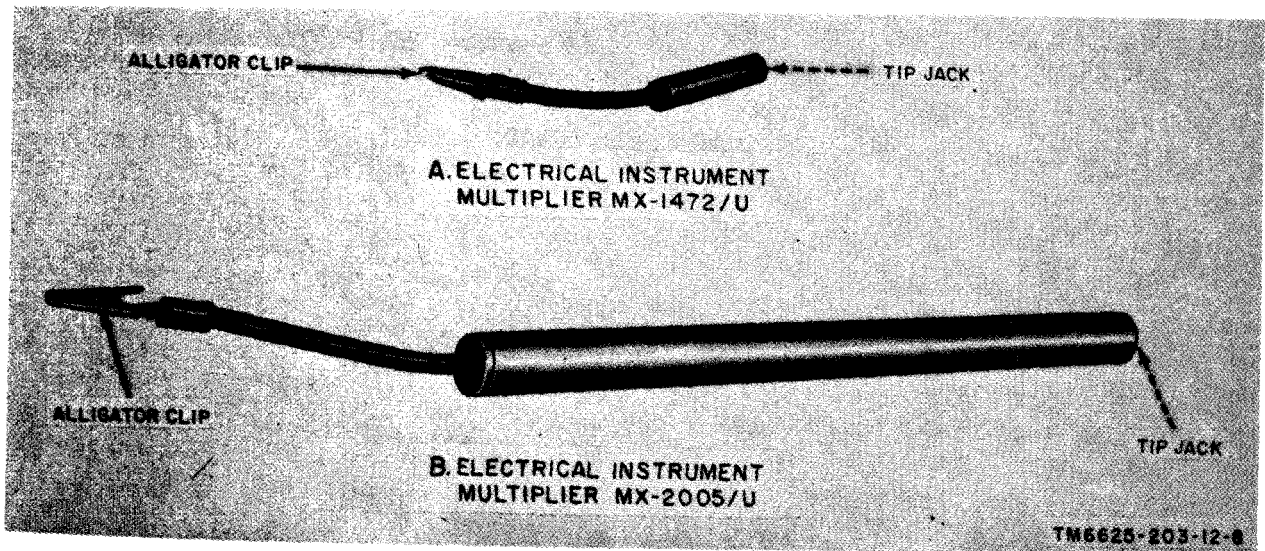

Figure 8. Electrical Instrument Multiplier MX-1472/U and Electrical Instrument Multiplier MX-2005/U.
- (7) 0 to 100 amperes.
b. Electrical Instrument Multiplier MX-1472/U (fig. 8). Electrical Instrument Multiplier MX-1472/U contains a precision resistor assembly terminated at one end with an alligator clip and at the other end with a tip jack. The MX-1472/U enables the multimeter to be used for dc voltage measurements up to 10,000 volts (par. 24a).
c. Electrical Instrument Multiplier MX-2005/U (fig. 8). Electrical Instrument Multiplier MX-2005/U is similar to the MX-1472/U (*b* above) except that it enables the multimeter to be used for dc voltage measurements up to 50,000 volts (par. 24b).